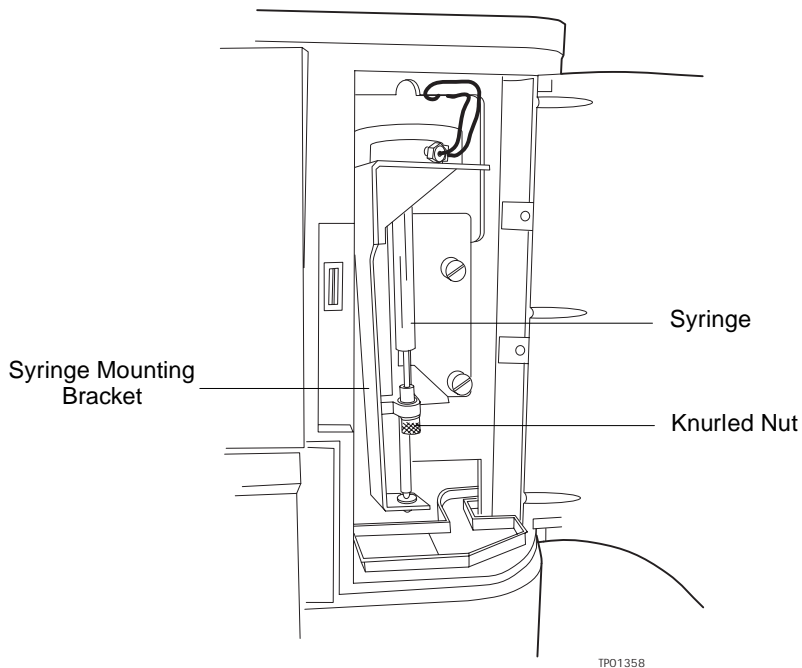

Figure 7-11 Syringe Assembly Components
3. Remove the knurled nut that holds the syringe barrel to the syringe mounting bracket (Figure 7-11).